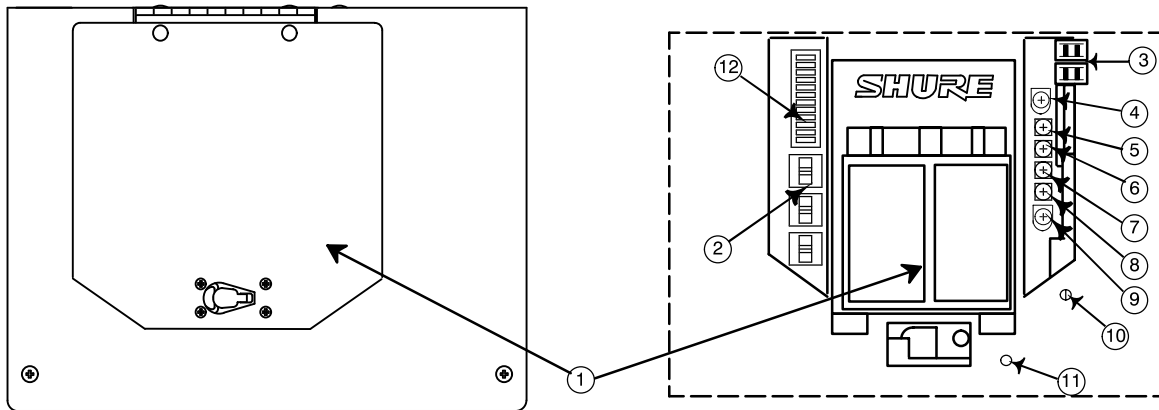

Figure 4
**INTERNAL SWITCHES AND CONTROLS (Figure 4)**